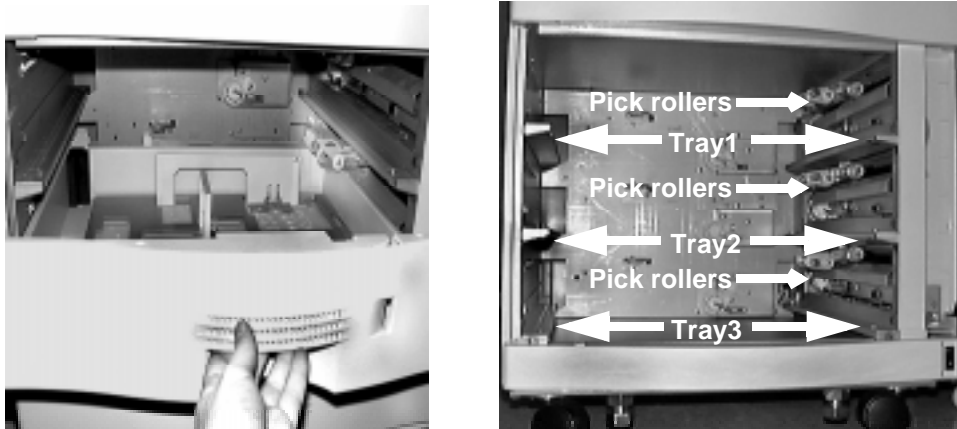

Figure 4-38 Removing Paper Trays - all trays removed
1. To reach the tray pick rollers more easily, remove all three trays from the printer and set them aside, as shown in Figure 4-38 below.